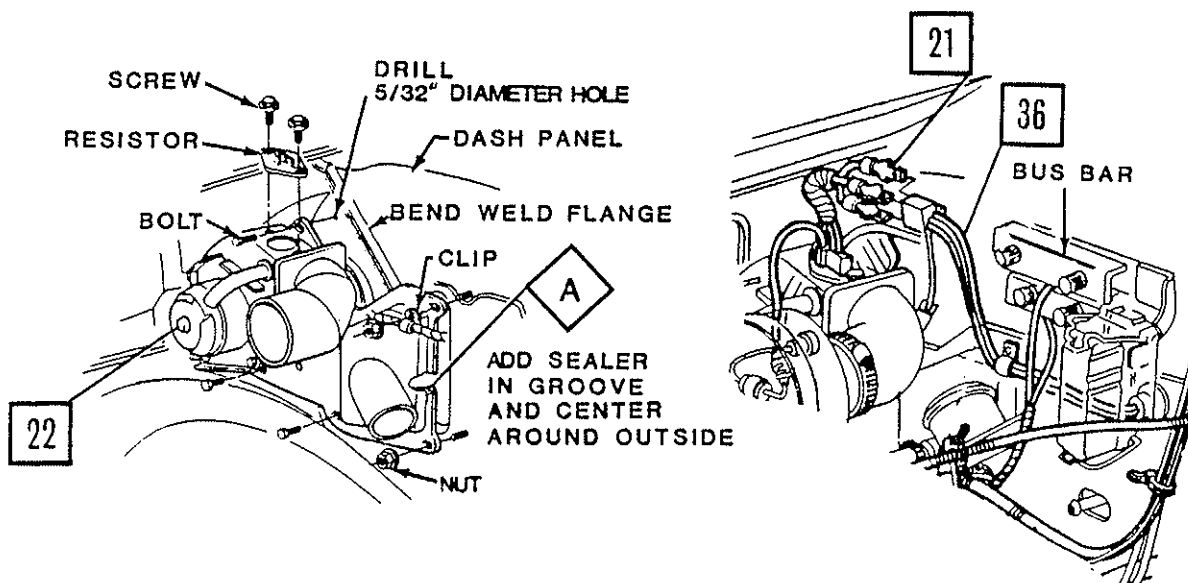

Figure 6.
- 52. Disconnect electrical connectors and remove existing blower assembly and air inlet assembly (Figure 6.).
- 55. Place new air inlet blower assembly on firewall, and mark and drill a 5/32 inch hole in left top of assembly with missing hole in firewall (Figure 6.). Remove blower assembly after drilling hole.
- 56. Install RTV sealer on new air inlet blower assembly and install (Figure 6.). Tighten to 20-30 lb.-in. (2.3-3.4 Nm).
- 58. Transfer resistor from old blower assembly to new blower assembly and seal with RTV sealer (Figure 6.). Tighten to 10-15 lb.-in. (1.2-1.6 Nm).
- 59. Install new blower wire assembly to resistor and connector to existing electrical connectors (Figure 6.).